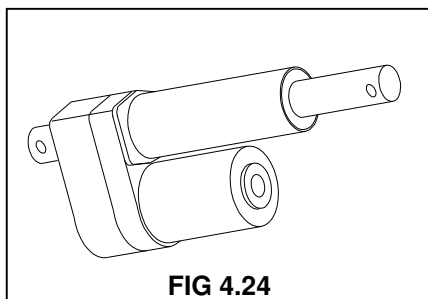

FIG 4.24
5. Attach the depth command actuator (fig. 4.24) to the light sensor mount and the tool bar. See page 60.